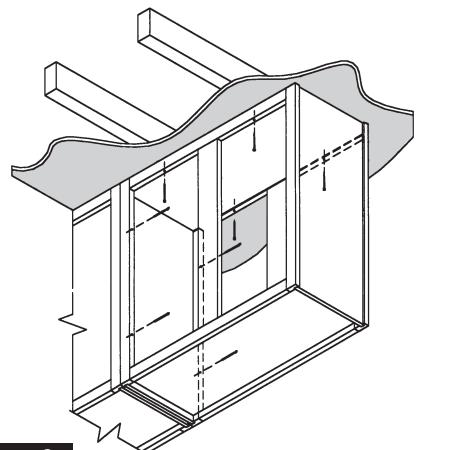
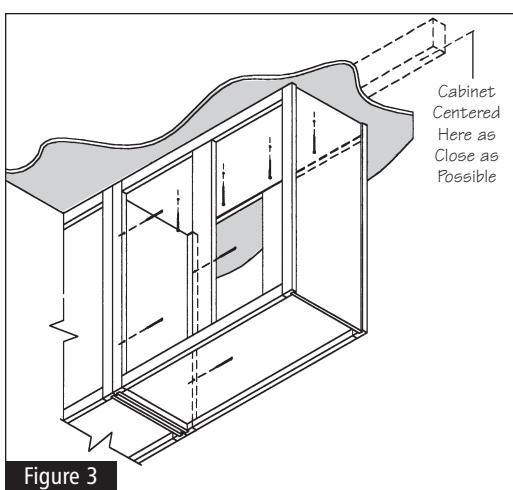

Figure 2
Figure 3
- 2 Determine the location of the ceiling joists to which your Peninsula Wall Cabinet will install. If your ceiling joists run perpendicular to the width (the side-to-side dimension) of your Peninsula Wall Cabinet, you will attach the cabinet by inserting the screws through the cabinet horizontal frames. See Figure 2. If your ceiling joists run parallel with the length of your cabinets, you will insert the screws through the top panel of the cabinet. See Figure 3.